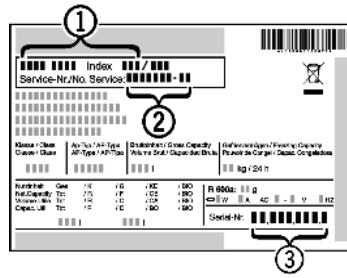

Fig. 10
- ▶ Read the appliance designation Fig. 10 (1), service No. Fig. 10 (2) and serial No. Fig. 10 (3) off the type plate located inside the appliance on the left-hand side.
- ▶ Notify the customer service, specifying the fault, appliance designation Fig. 10 (1), service No. Fig. 10 (2) and serial No. Fig. 10 (3).